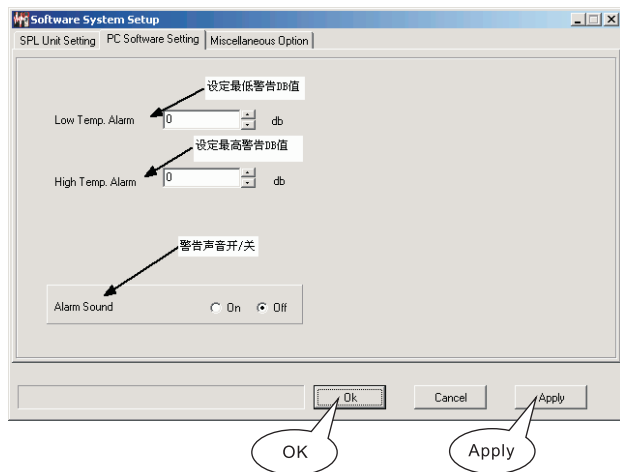

图29
- 点击“PC Software Setting”选项页,弹出画面如图29: